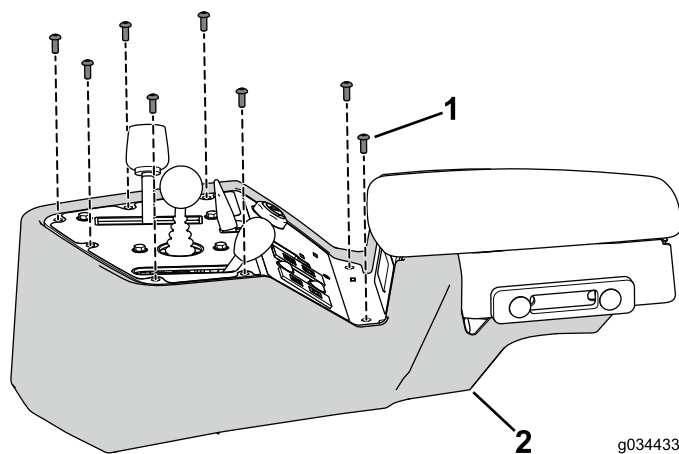

Figure 32
1. Use the 8 bolts that you removed earlier to secure the console cover to the console assembly (Figure 32).